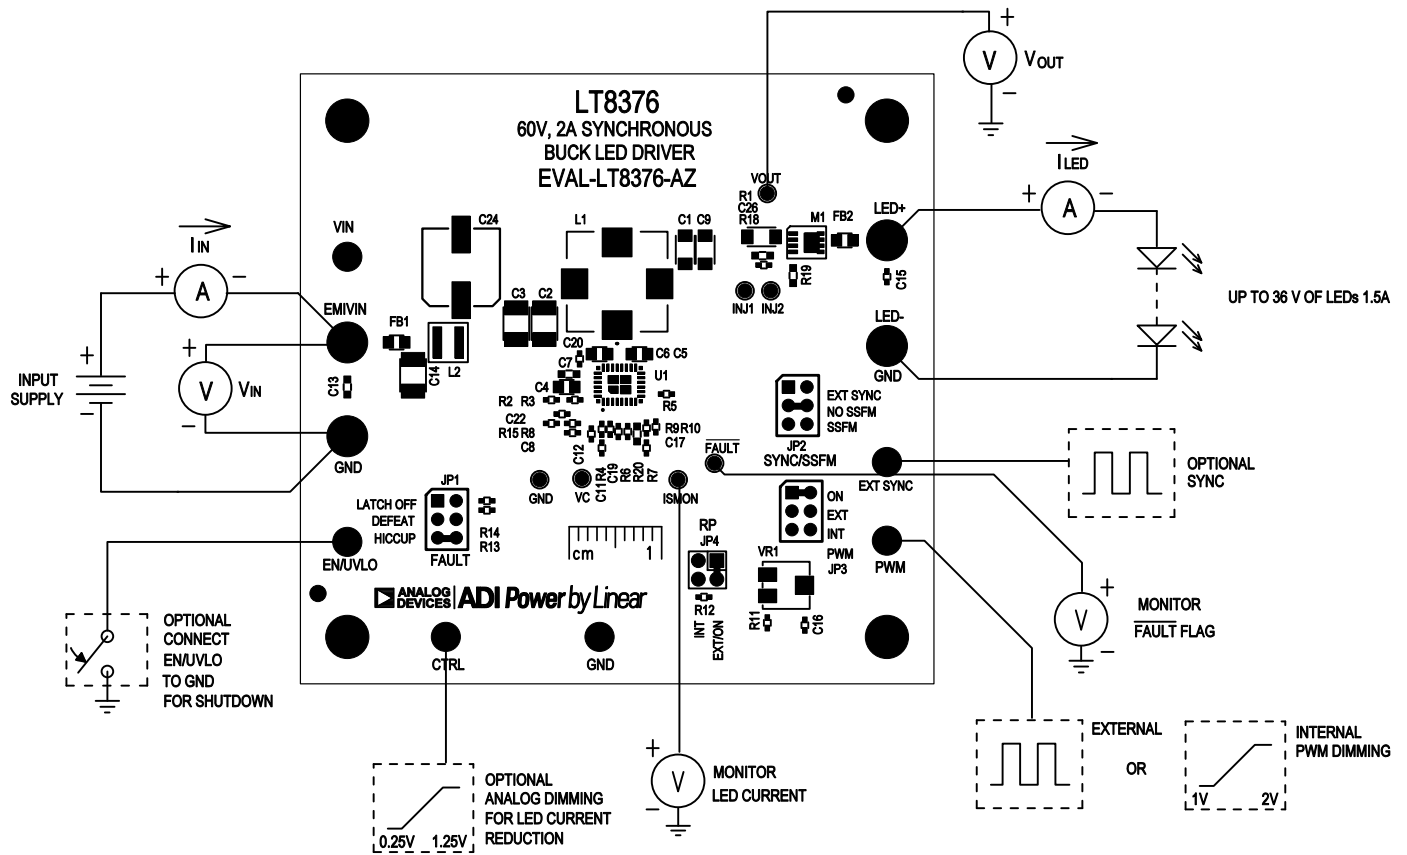

Figure 1. Setup Drawing for EVAL-LT8376-AZ
1. With power off, connect a string of LEDs that will run with forward voltage less than or equal to 36V (at 1.5A) to the LED+ and LED- turrets on the PCB as shown in Figure 1.